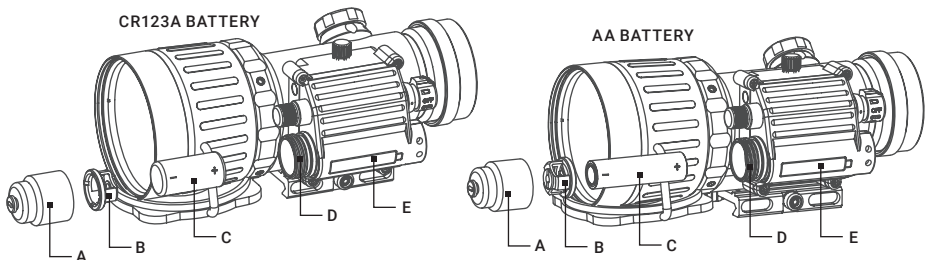

FIGURE 2-1. COMANCHE 40 BATTERY INSTALLATION
Install the battery as follows (refer to Figure 2-1):
1. Unscrew the battery cap (A) and check the position of the adapter (B). See Figure 2-1 for the correct positioning of the threaded adapter, which changes depending on the battery being installed.